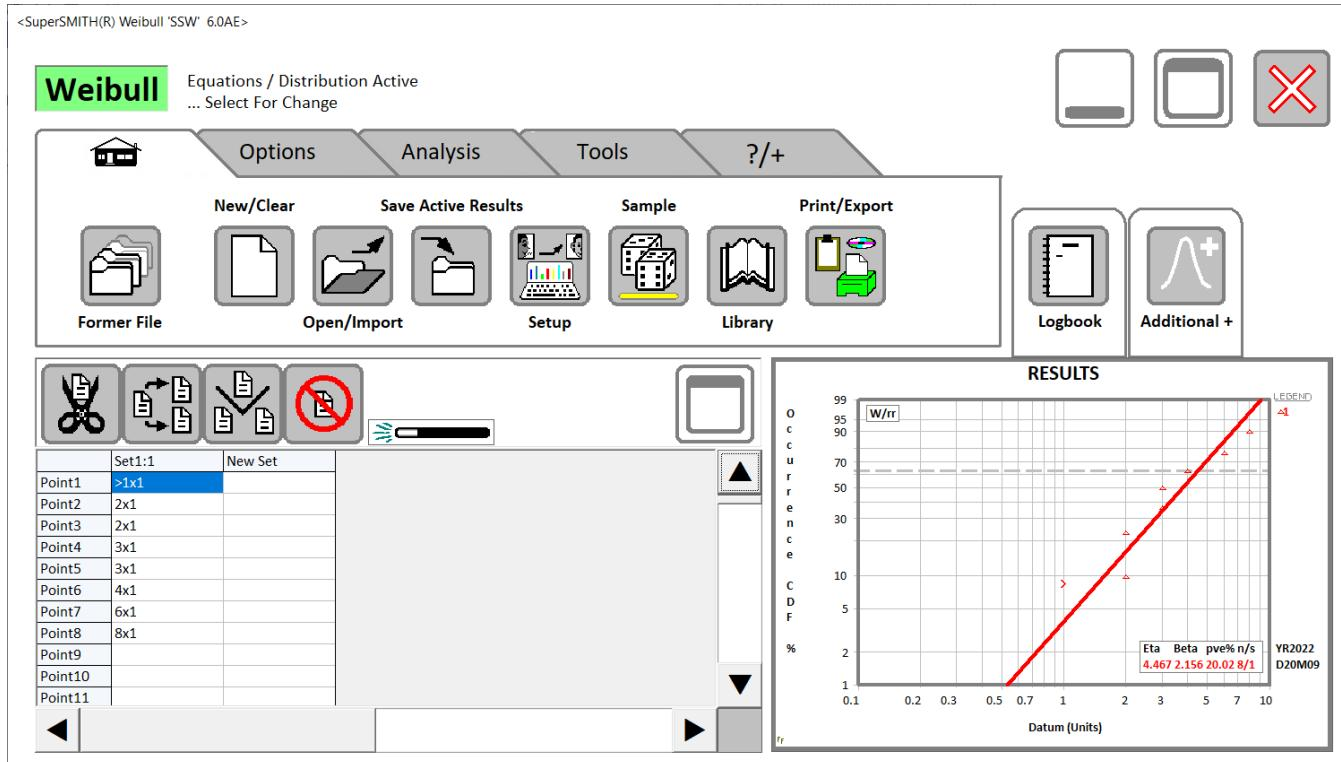

Figure 2: New SuperSMITH Weibull Main Screen Icon Layout.
DIRECT INSTALL: Power up the PC (Windows or simulator). Have the SS **setup.exe** and other installation files available. Load onto the PC by running **setup.exe** and following the prompts. After install, within the SuperSMITH group, select the SuperSMITH Weibull program. This is the SMITHW.EXE file or the icon showing plotted data with fit and confidence lines. Initially select “Yes” to agree to usage conditions, and automatically advance to the Main Screen (Figure 1 below shows the former icon layout, Figure 2 on the next page shows the new icon layout).
Use single selecting (single touching for touch screens) mostly in SuperSMITH. Double selecting is discouraged to minimize hand stress. We will be using life data mostly for illustration, but any type of measured data with variability can be analyzed. **For this tutorial if using the DEMO software, all input data must only be loaded from a file previously saved by a FULL SuperSMITH software program (provided with the software).** If using the FULL software, this is not a concern but maybe easier to do. All file names shown here are on a single text line for easy copying. Reminder: Figure 1 shows the new SSW icon layout for standard pointing device use, and Figure 2 shows an optional larger icon layout with tabs for touch screen use.
Start the SSW software by choosing Start from the Windows™ Main Screen, then the SuperSMITH group, then Weibull. On first use, select “Yes, I agree...” if you are asked and if you agree to the software use terms. The Main Screen (View of Figure 1 or Figure 2) should appear with an equation Label (“Weibull” at first), some icons, a data grid and a results box.
- B. Probability plot should appear. Select plot to enlarge. The plot should resemble Figure 2. Your solution should indicate $\text{Eta}=4.467$, $\text{Beta}=2.156$. If not ... check the data and/or reset the method to Weibull “rank regression” standard. Select the full-window plot or use the <ESC> key to shrink the plot returning you to the Main Screen.